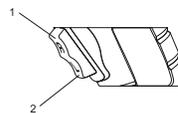

Figure 3
1. To drive screws, press the upper part of the switch (1) (Fig. 3). To turn the switch OFF, release the switch.
2. To remove screws, press the lower part of the switch (2).